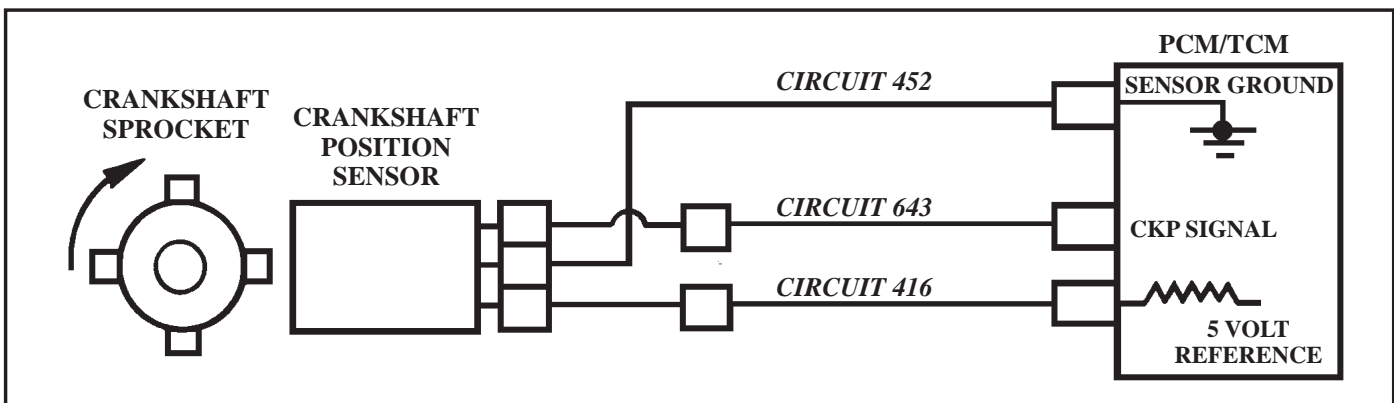

Figure 38
- This sensor should have a 5 volt reference voltage supply as well as a good ground circuit. The remaining circuit 643 is the engine rpm signal which is a 0 to 5 volt pulse (Refer to Figure 38) as the four teeth, spaced 90° apart, on the crankshaft sprocket spin in front of it when checked with a DVOM.